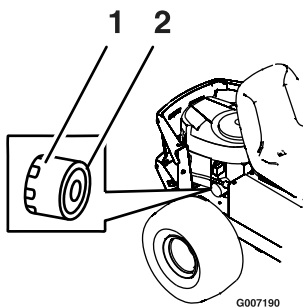

Figure 22
7. Remove the old filter and wipe off the mounting pad (Figure 22).
10. Install the replacement oil filter to the mounting pad. Turn the oil filter clockwise until the rubber gasket contacts the pad, then tighten the filter an additional 1/2 to 3/4 turn (Figure 22).